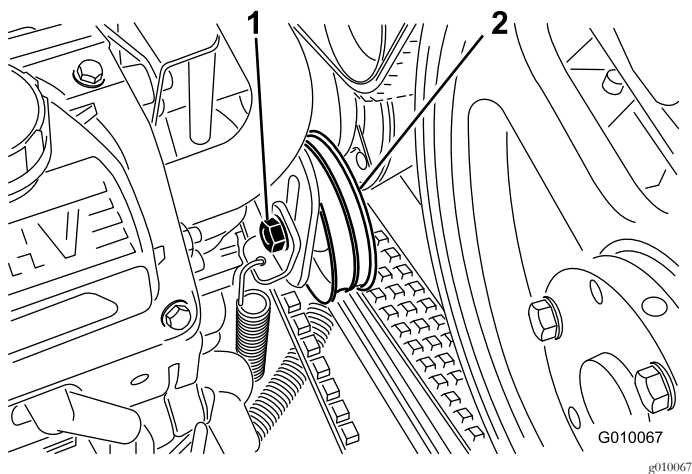

Figure 57
4. Loosen the pump belt idler bolt just enough to allow movement within the adjustment slot (Figure 57).